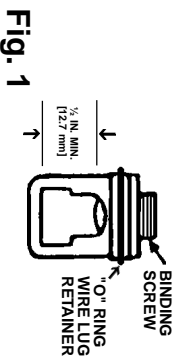

Fig. 1
2. Adjust binding screw to 1/2 in. min. opening as shown Fig. 1.